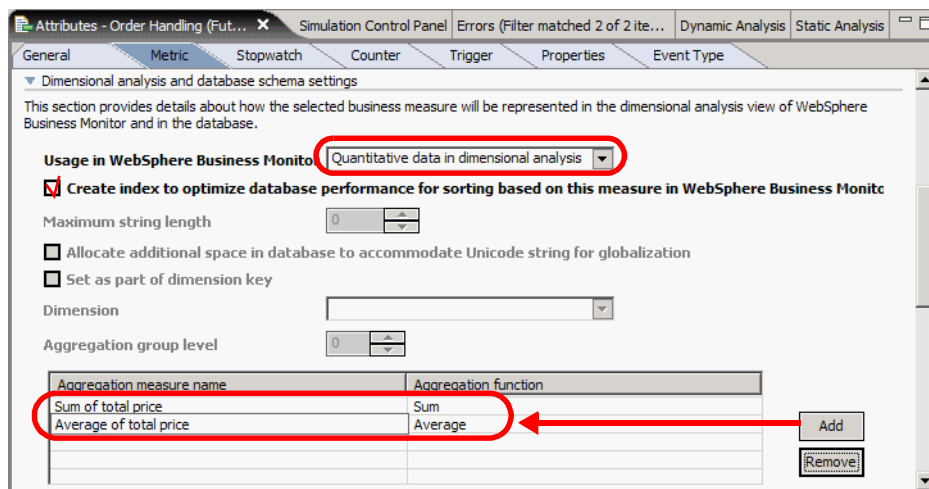

Figure 8-28 Preparing total price for dimensional analysis
- ▶ Select the TotalPrice metric. Select *Quantitative data in dimensional analysis*. Click *Add* twice for aggregation measures, set the names to Average of total price and Sum of total price, and select *Average* and *Sum* as aggregation functions (Figure 8-28).